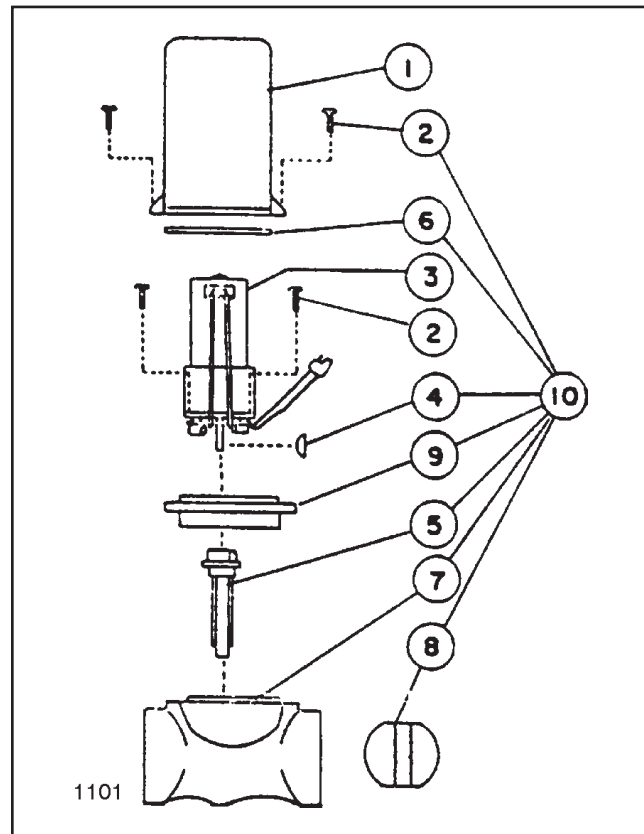

FIG. 14
When reassembling the valve, grease both sealing surfaces of the coupler shaft. Insert the coupler shaft into the iso-flange (9) and be sure seal properly seats on the shaft. Install on valve body and apply RTV 738 or equivalent to the mounting holes. Reassemble remaining items as shown in the parts diagram, FIG. 14.